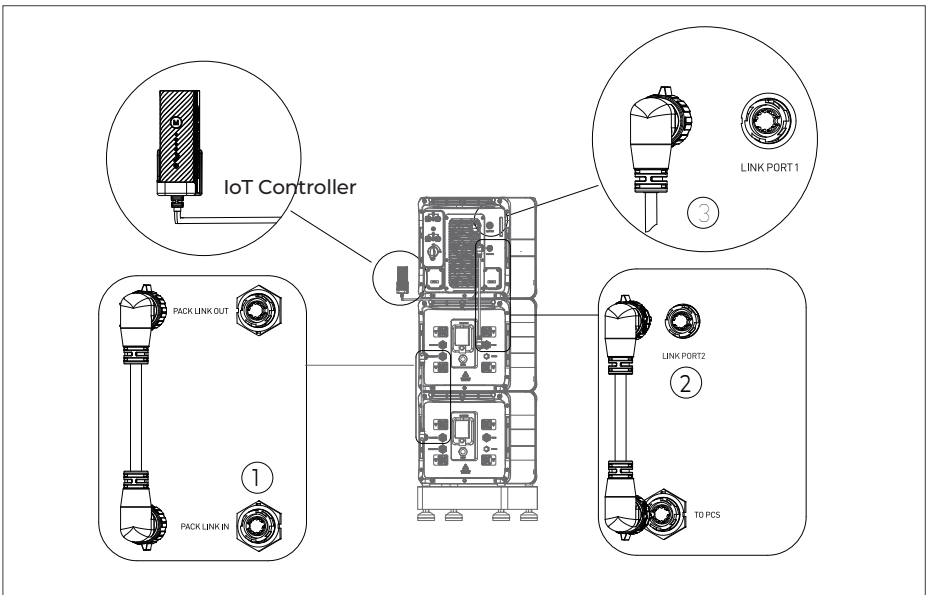

Figure 6-11
To achieve communication between two B500 battery packs, a communication cable is required. Plug one end of the cable to the B500 Link-in port, and the other to the upper B500's Link-out port. See Fig. 6-11 “①”.
For communication between the EP800 inverter and B500 battery packs, plug one end of the communication cable to the top B500's inverter signal port (To Pcs), and the other to the Link Port 2 of the EP800 inverter. See Fig. 6-11 “②”.
Connect the IoT controller to the EP800 inverter. See Fig. 6-11 “③”.